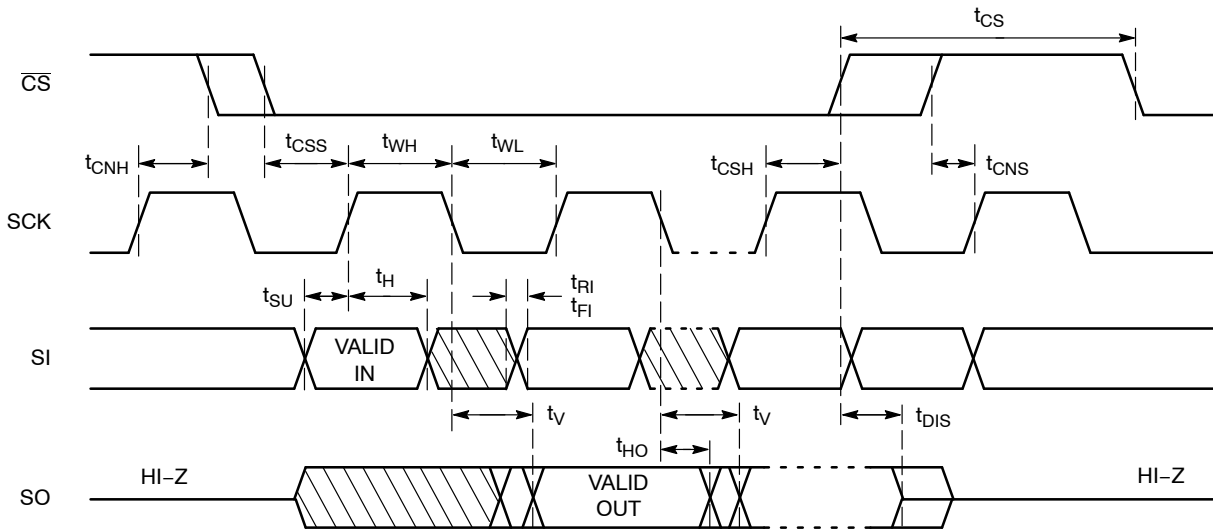

Figure 2. Synchronous Data Timing
7. **All Chip Select (CS) timing parameters are defined relative to the positive clock edge (Figure 2). t_{CSH} timing specification is valid for die revision C and higher. The die revision C is identified by letter "C" or a dedicated marking code on top of the package. For previous product revision (Rev. B) the t_{CSH} is defined relative to the negative clock edge.**
After a high to low transition on the \overline{CS} input pin, the CAT25320 will accept any one of the six instruction op-codes listed in Table 9 and will ignore all other possible 8-bit combinations. The communication protocol follows the timing from Figure 2.